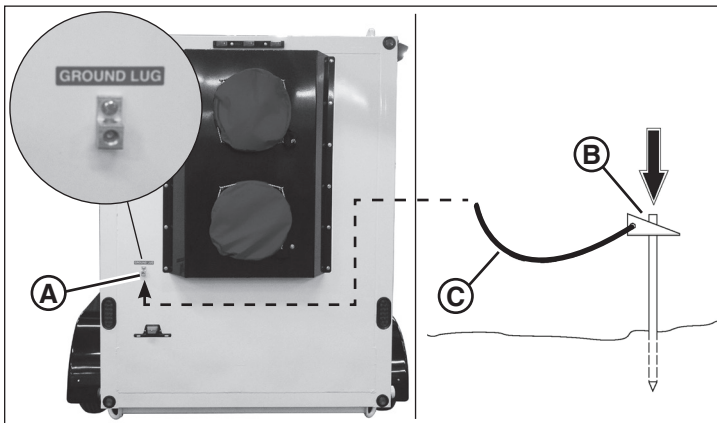

Figure 12
The heater trailer is equipped with a ground lug, located on the left rear of the trailer. See Figure 12. A ground rod and grounding cable are also required, and can be obtained through your authorized dealer.
1. Locate a point on the ground not more than 5 feet (1.5 m) from the ground lug (**A**, Figure 12). Drive the ground rod (**B**) into the earth at this point.
2. Attach one end of the grounding cable (**C**, Figure 12) to the ground rod.